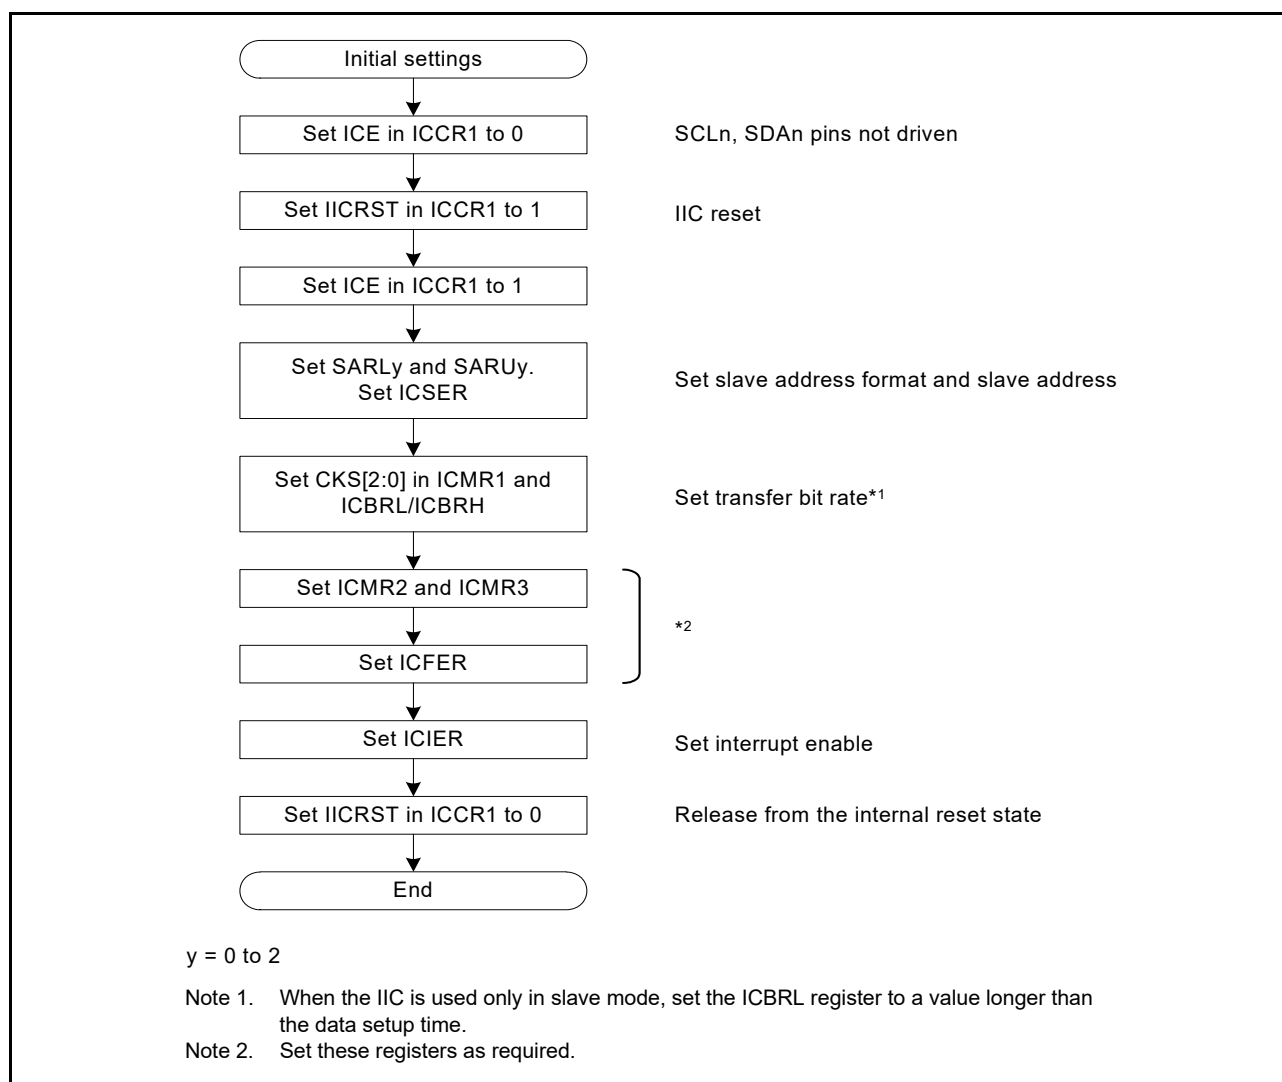

Figure 28.5 Example of IIC initialization flow
Before starting data transmission or reception, initialize the IIC using the procedure shown in Figure 28.5.
4. Set the SARLy, SARUy, ICSEr, ICMR1, ICBRH, and ICBRL registers (y = 0 to 2), and set the other registers as required. For initial settings of the IIC, see Figure 28.5.